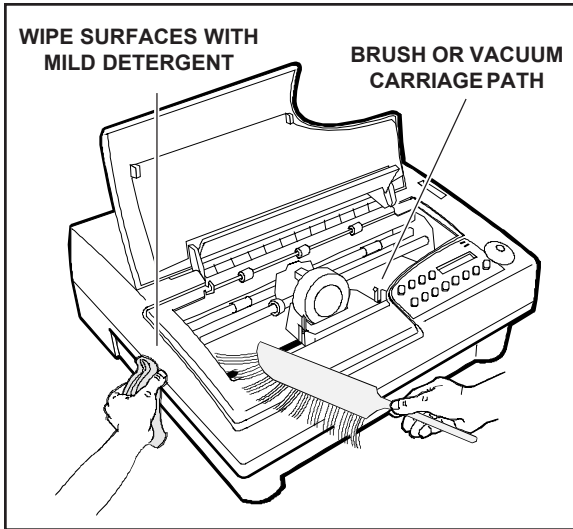

Figure 5-6. Cleaning Printer Surfaces
2. Using a soft brush or lint-free cloth, dust all of the exterior surfaces, as shown in figure 5-6. Be sure the cloth is free of grit or other matter.